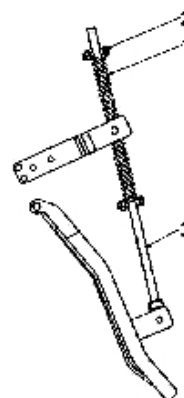

Fig. 27
(Fig. 27) prevents the steering hoe from overturning when parking.
- 4) The rod (Fig. 27) should be positioned as shown in the figure when parking the machine.